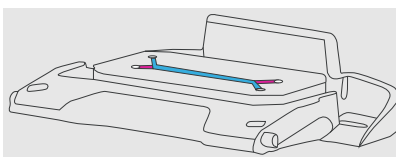

Figure 3: View of chip with no excess ER-1™ solution on surface
5. Introduce ECM solution through the top channel inlet, leaving small droplets of excess ECM solution on both ports in both channels (Figure 3).